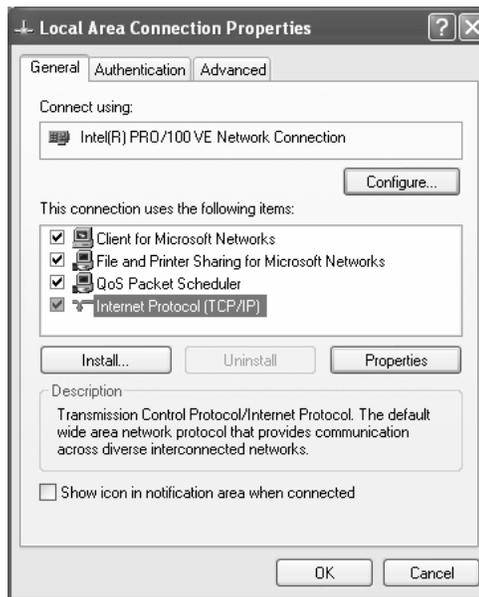

Figure 119: Local Area Connection Properties
4. Ensure the Client for Microsoft Networks and Internet Protocol (TCP/IP) are installed and checked. If NetBEUI is installed, uninstall it. See Figure 119.